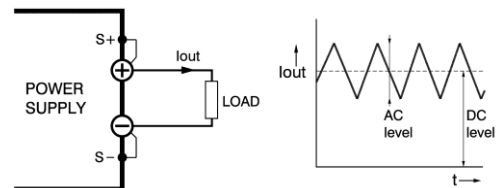

Figure 7.8: Pulsating load current.
- To avoid overheating the output capacitors, the AC component of the DC load current should be limited, see Figure 7.8.
- When using remote sensing on a pulsating load (for instance a DC-motor), use a capacitor in series with a resistor over the load see Figure 7.8. With this the AC-component caused by the pulsing of the load is filtered.